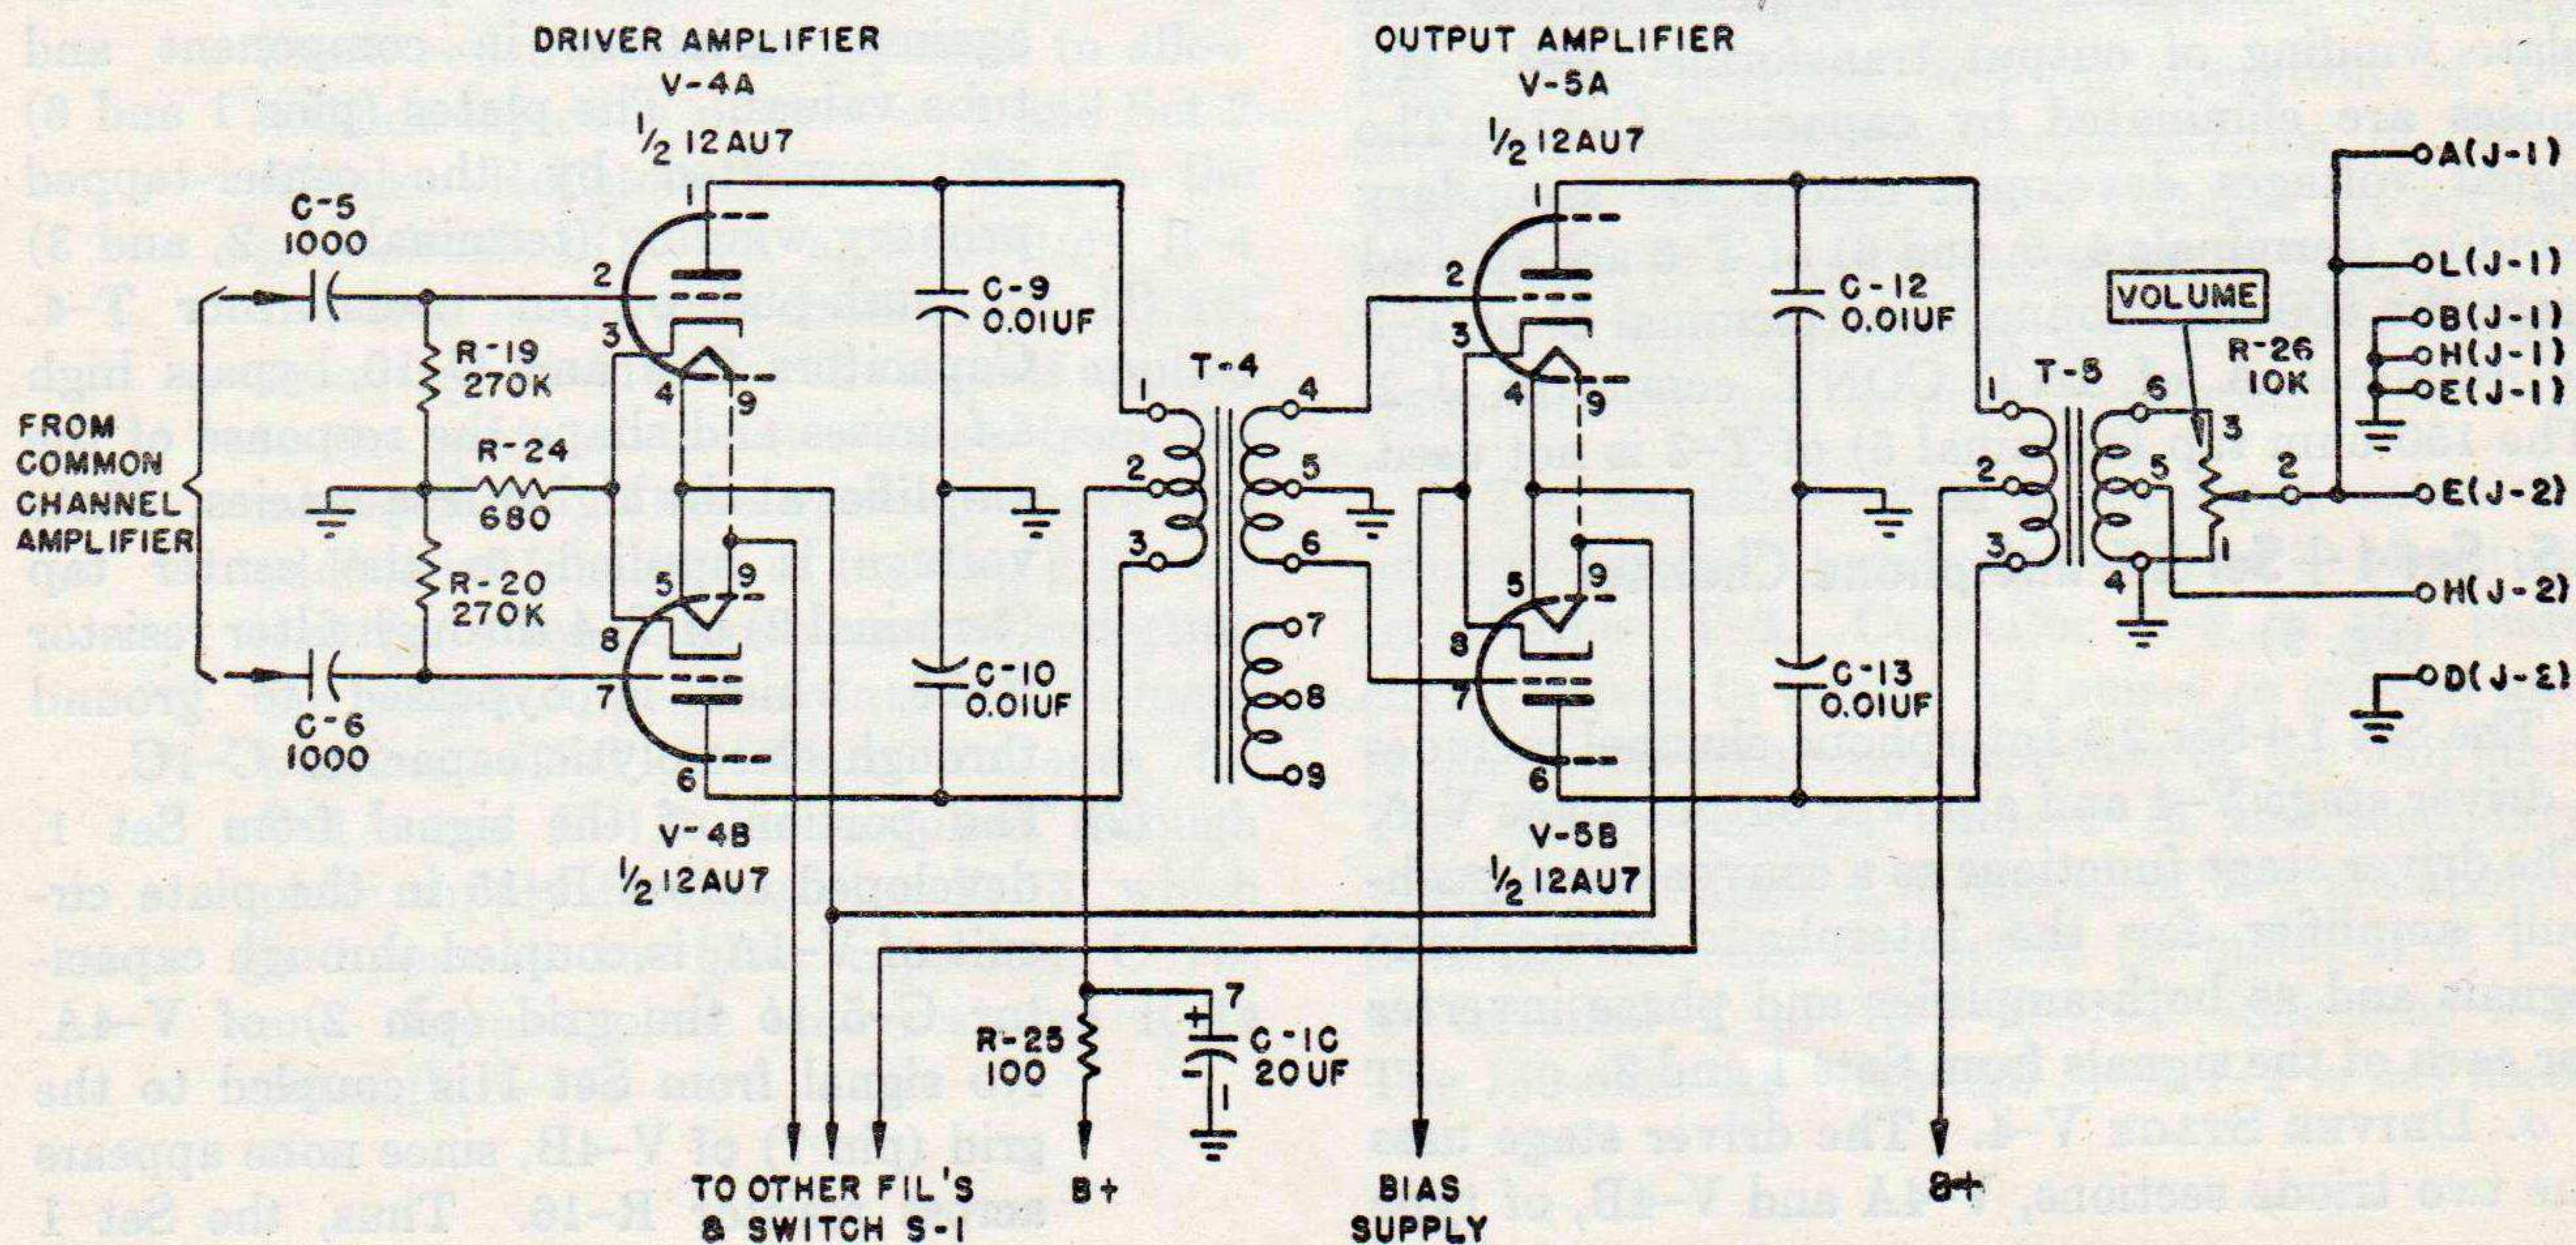

Figure 9. Set 1 + Set 2 + Interphone channel.
15. Set 1 + Set 2 + Interphone Channel (fig. 9)